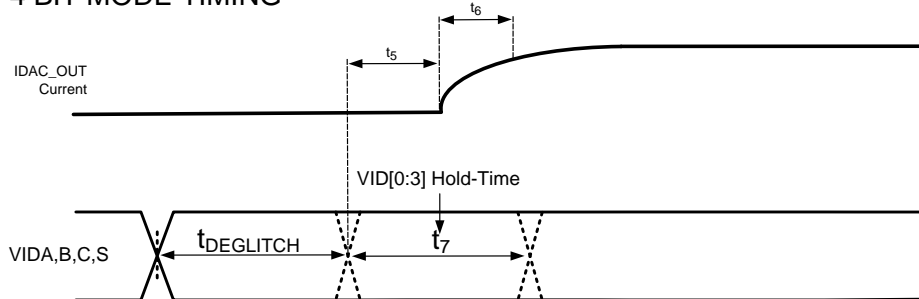

Figure 1. Timing Diagram for LM10011 Communications
(5) For VID timing, see Figure 1.
Four pins are used to communicate with the LM10011. In 6-bit mode (MODE = 0), VIDA, VIDB, and VIDC are data lines, while VIDS is a latching strobe that programs in the LM10011 data. As shown in the 6-bit mode timing diagram of Figure 1, the falling edge of VIDS latches in the data from VIDA, VIDB, and VIDC as the lower three LSB of the IDAC\_OUT value, [2:0]. After a minimum hold time ( $t_2$ ), the rising edge of VIDS latches in the data from VIDA, VIDB, and VIDC as the upper three LSB of the IDAC\_OUT value, [5:3]. Internally, a delay ( $t_3, t_1$ ) on VIDS allows for the setting of all VIDA, VIDB, and VIDC lines to change simultaneously as VIDS rises or falls.
The LM10011 includes a 4-bit mode to facilitate parallel VID communication. In 4-bit mode (MODE = 1), VIDC, VIDB, VIDA, and VIDS are all parallel data lines. As shown in the 4-bit mode timing diagram in Figure 1, a changing edge of any of the VID communication lines will change the IDAC\_OUT current to the corresponding new 4-bit value found on the data lines. There is a 3- $\mu$ s deglitch filter to eliminate spurious noise events. The data must overcome the deglitch time and the minimum hold time ( $t_7$ ) or else the IDAC\_OUT pin current may not reflect the value indicated at the VID data inputs. During the hold time, no other data line can be transitioned.